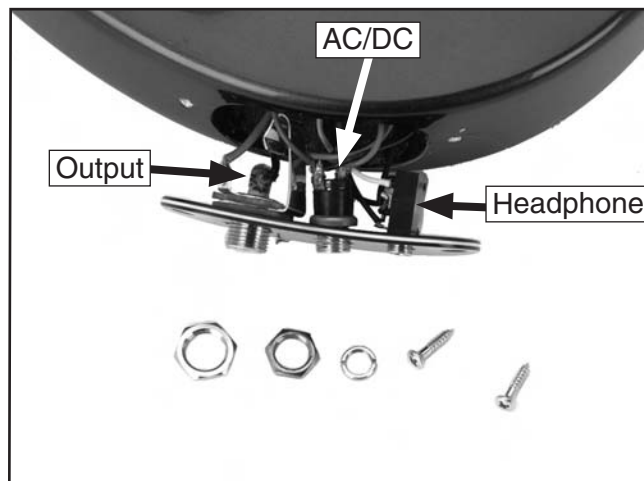

Figure 14. Inserting jacks through jack plate.
3. Insert the headphone, AC/DC, and output jacks out through the hole in the side of the guitar, then through the jack plate (**Figure 14**).